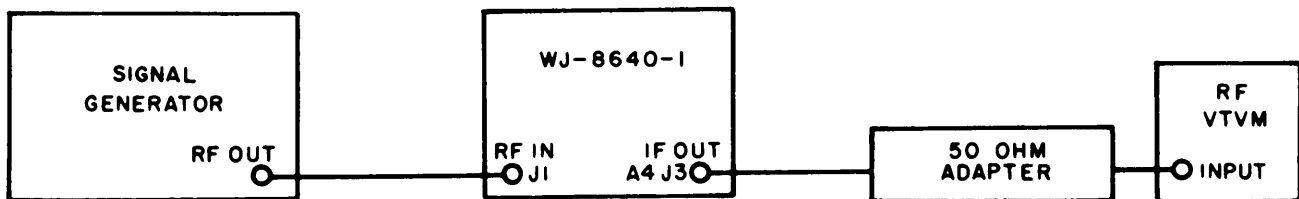

Figure 4-2. Test Setup, Image Rejection Circuit
- (1) Construct the circuit as shown in Figure 4-2.